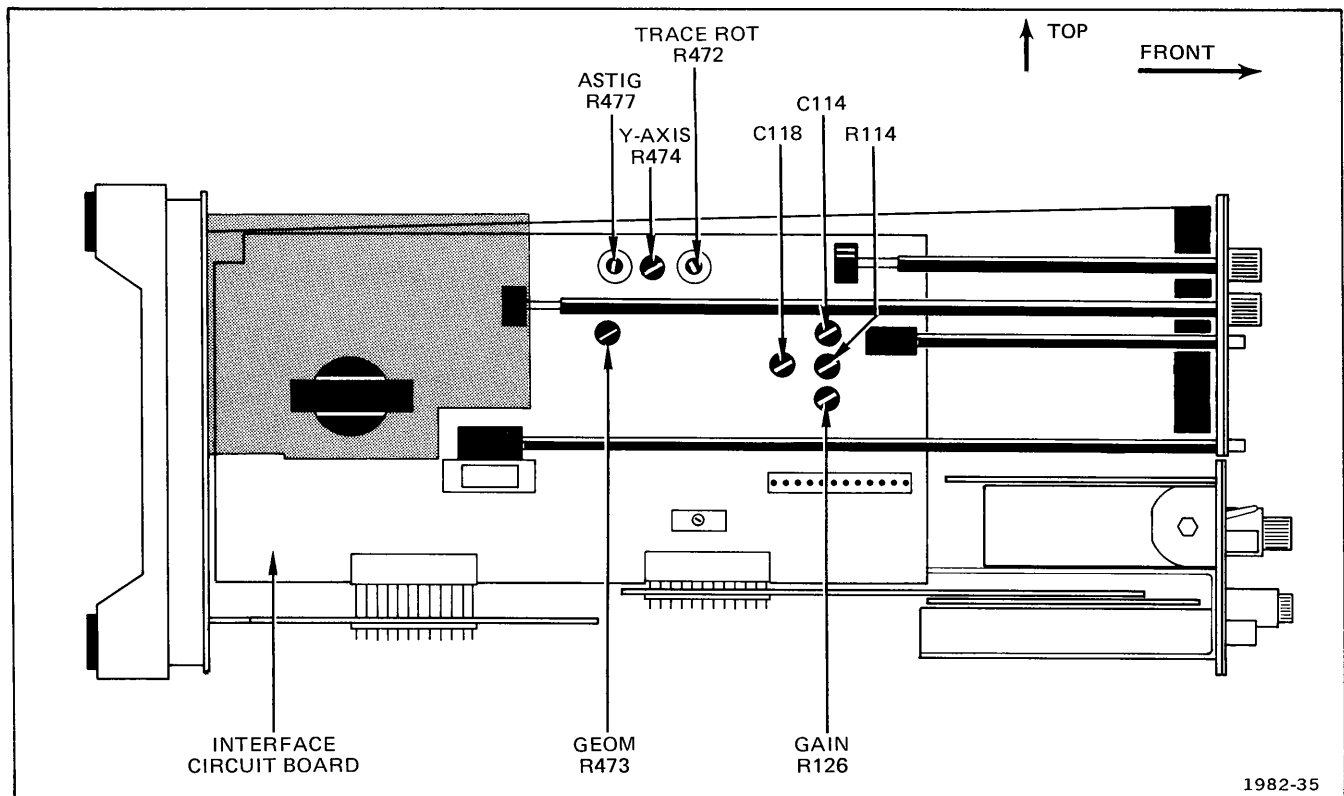
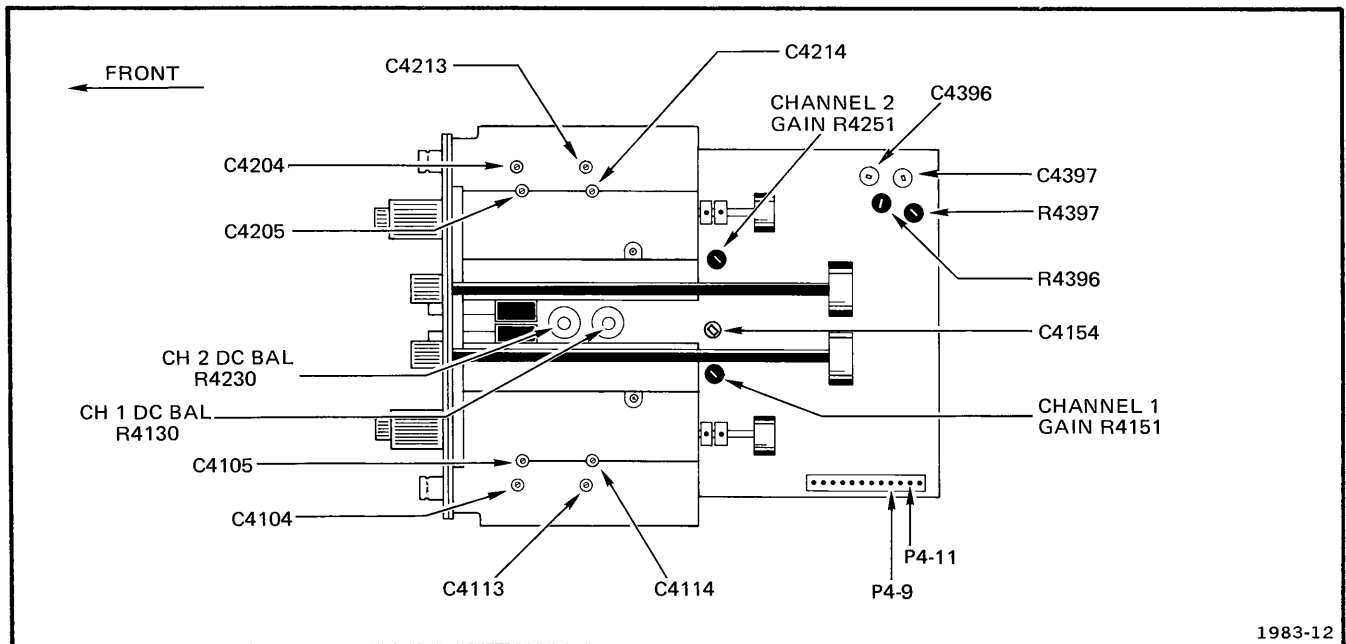
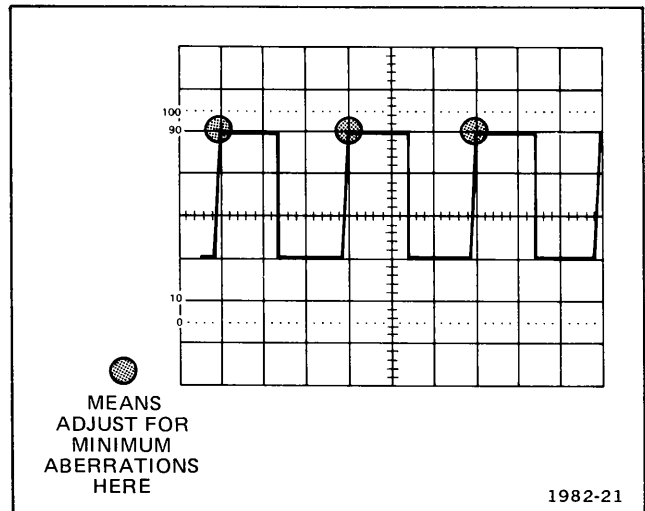

Fig. 4-2. Interface board adjustment locations (on left side of crt).
Fig. 4-3. Vertical Amplifier adjustment locations (bottom view of instrument).
Fig. 4-4. Display of correct attenuator compensation (Idealized).
b. ADJUST—Trace Rot, R472 (see Fig. 4-2), to align trace with center horizontal graticule line.
e. ADJUST—Y-axis, R474, (see Fig. 4-2) to align center marker with center vertical graticule line.
b. ADJUST—Geom, R473 (see Fig. 4-2) for best alignment of markers with the vertical graticule lines, i.e.: minimum bowing of markers.
a. ADJUST—CH 1 DC BAL, R4130 (see Fig. 4-3), for no trace shift while switching CH 1 VOLTS/DIV control between 2 mV and 10 mV.
c. ADJUST—CH 2 DC BAL, R4232 (see Fig. 4-3), for no trace shift while switching CH 2 VOLTS/DIV control between 2 mV and 10 V.
b. Set Gain, R126 (see Fig. 4-2), to physical midrange.
c. Connect digital voltmeter between P4-9 and P4-11 (see Fig. 4-3). Select range on meter for at least 500 mV reading.
f. Adjust Gain, R126 (see Fig. 4-2), so trace aligns with third graticule line above center horizontal graticule line.
c. ADJUST—Gain, R4151 (see Fig. 4-3), for a 4-division display.
e. ADJUST—Gain, R4351 (see Fig. 4-3), for 4-division display.
e. ADJUST—C4397, R4397, C4396, R4396 (see Fig. 4-3), C114, R114, C118 (see Fig. 4-2), for best front corner of waveform using a low-capacitance alignment tool.
h. ADJUST—C4154 (see Fig. 4-3), for best square front corner of waveform using low-capacitance alignment tool.
c. ADJUST—C4114 (see Fig. 4-3) for best square front corner (see Fig. 4-4 for example).
e. ADJUST—C4105 (see Fig. 4-3) for best square front corner (see Fig. 4-4 for example). Disconnect test equipment.
c. ADJUST—C4214 (see Fig. 4-3) for best square front corner (see Fig. 4-4 for example).
e. ADJUST—C4205 (see Fig. 4-3) for best square front corner (see Fig. 4-4 for example). Disconnect test equipment.